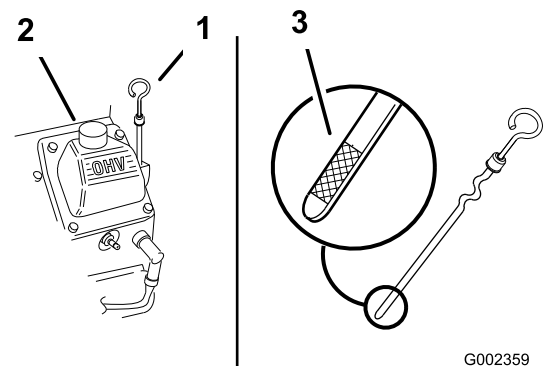

Figure 40
4. Clean around the oil dipstick (Figure 40) so that dirt cannot fall into the filler hole and damage the engine.
5. Unscrew the oil dipstick and wipe the end clean (Figure 40).
6. Slide the oil dipstick fully into the filler tube, but do not thread onto tube (Figure 40).
7. Slowly pour approximately 80% of the specified oil into the filler tube (Figure 40).